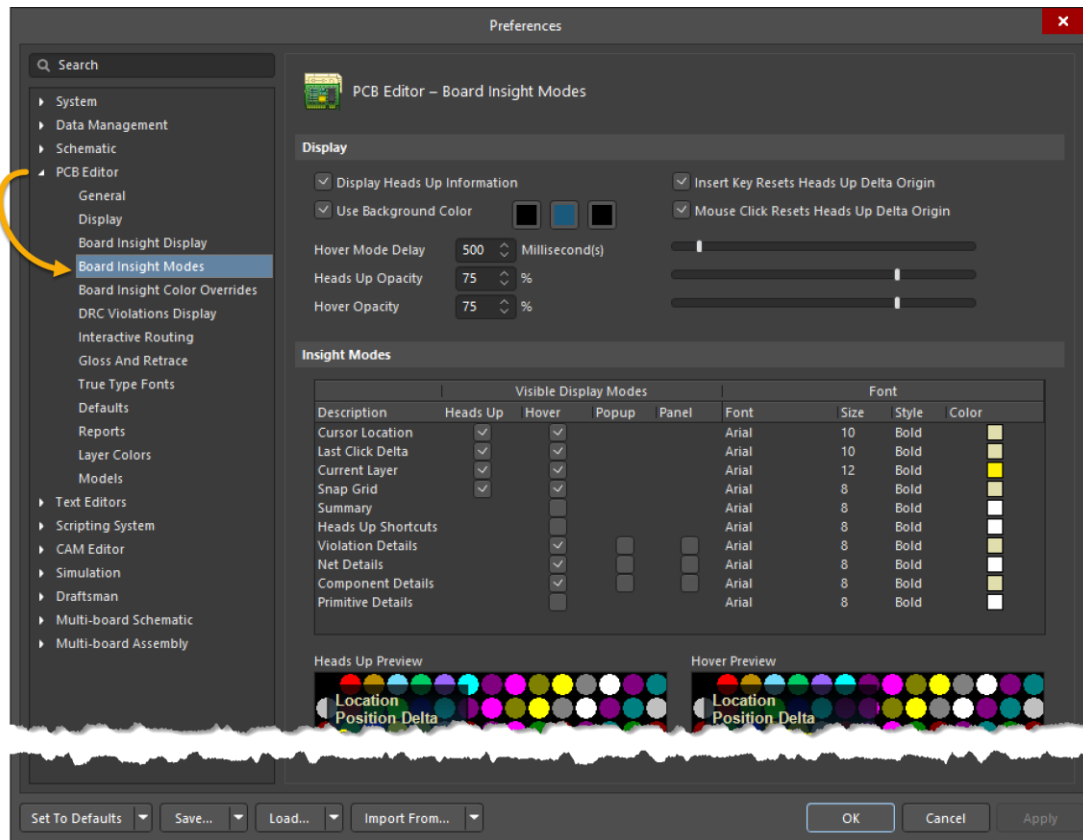

Figure 9. Board Insight Modes
27. Change to the section *Board Insight Modes* in the *Preferences*, as seen in Figure 9.